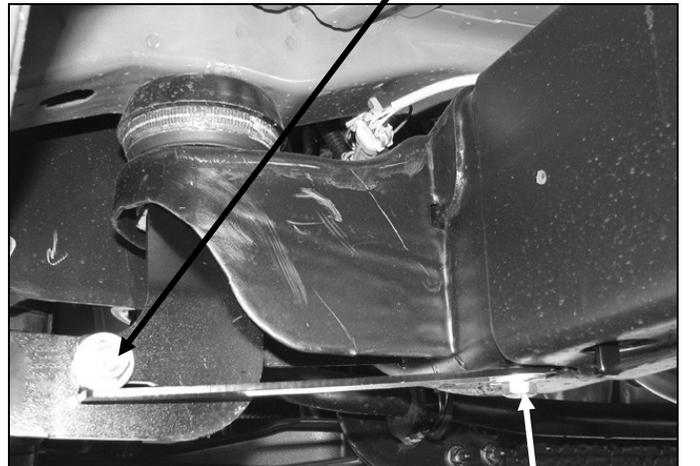

Fig 3A
3. Locate the two factory holes in the bottom of the frame towards the front of the vehicle. Insert (1) 10mm Nut Plate, **(Figure 3A)**, into the oval hole and line up the threaded nut with the forward round hole, **(Figure 3B)**. **NOTE:** Nut Plate and Support Bracket are not required on 2011-12 25-3500 models.